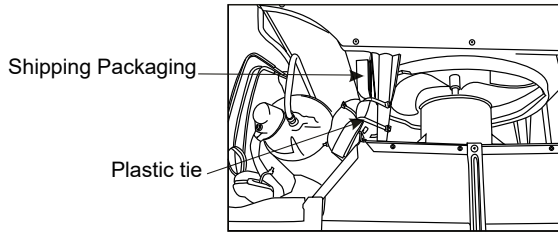

Fig.7
10. Your unit may come with internal packaging. This packaging must be removed prior to installing the air conditioner back into the cabinet. (see Fig. 7).